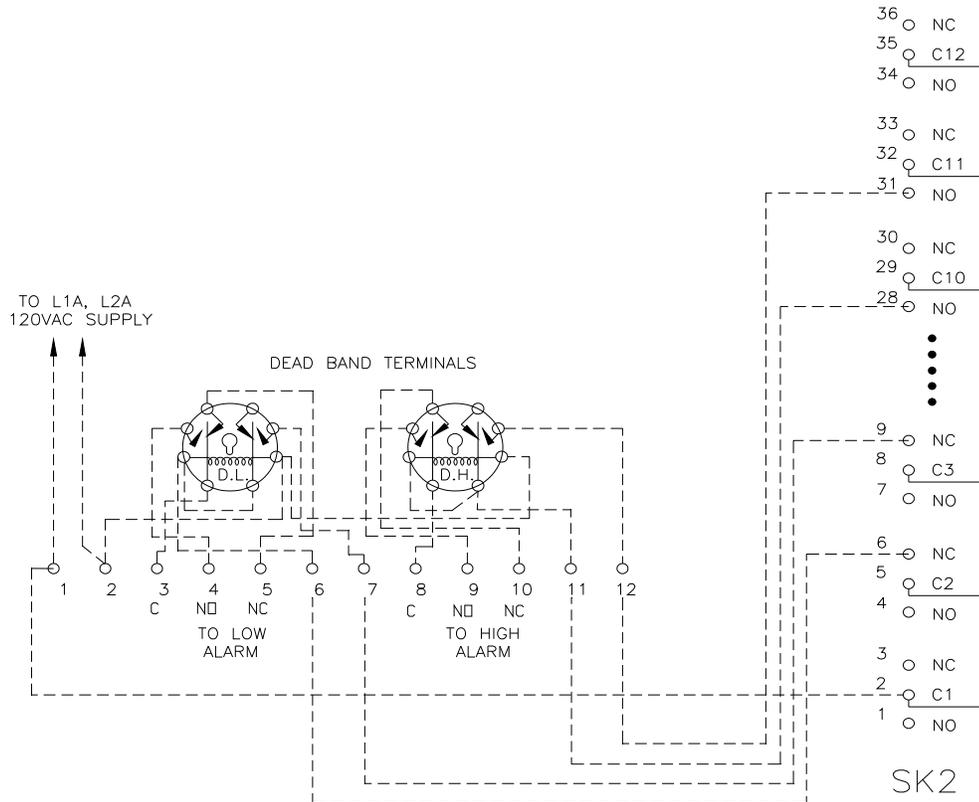

Fig. 3 Dead Band Wiring
6. The purpose of **Dead Band Relays** is to allow the user to enable an alarm or control function to be "turned on" at one level and to be "turned off" at another level. When dead band relays are specified, the Control Unit will be furnished with two additional relays, and all auxiliary contacts wired to terminal blocks. The Dead Band Relays will be identified on the Control Unit diagram as D.L. (Dead Low) and D.H. (Dead High). They will be as illustrated below in Fig. 3.